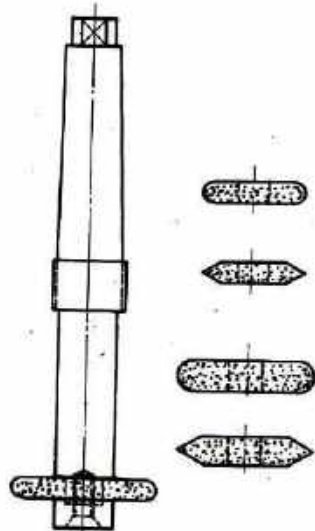

Fig. 730. GRINDING ATTACHMENT
- Fig.730 Grinding Attachment.